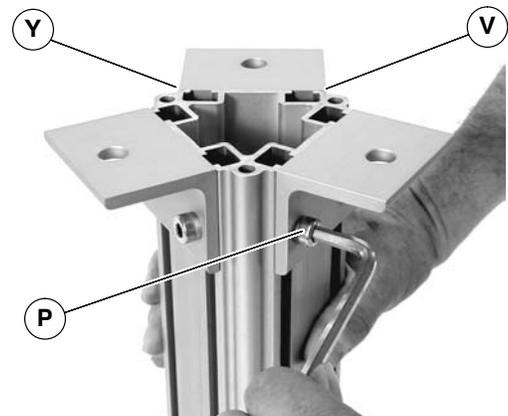

Figure 13
5. Align the foot bracket edge (Y of Figure 13) with the bottom edge of the trileg post (V).
<p>Failure to secure screws (P) of Figure 13) may cause conveyor sections to drop down, causing severe injury.</p> <p>TIGHTEN ALL SCREWS (P) AFTER ADJUSTMENT.</p>
6. Tighten socket screws (P of Figure 13) to 100 in-lb (11 N-m)